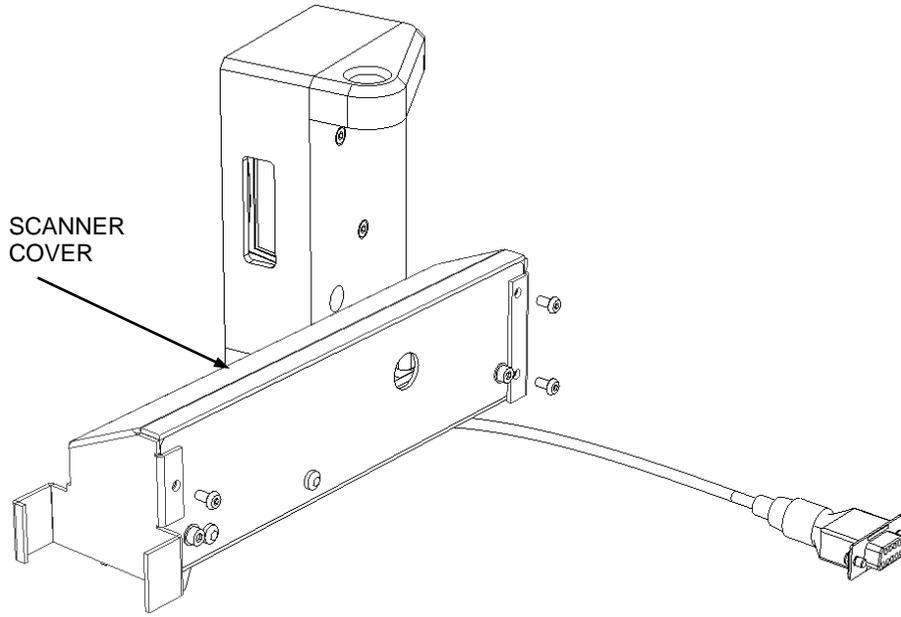

Figure 11-3: Scanner Cover
1. Remove the scanner cover (Figure 11-3) by removing the three M3 x 6 Button Head Screws.